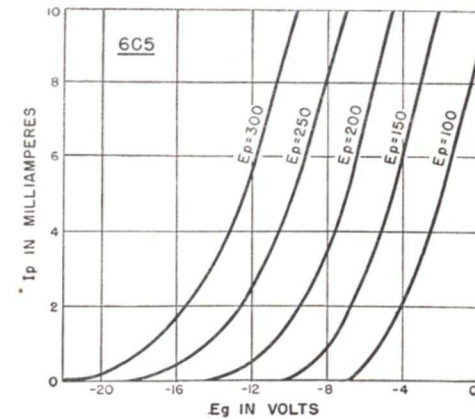
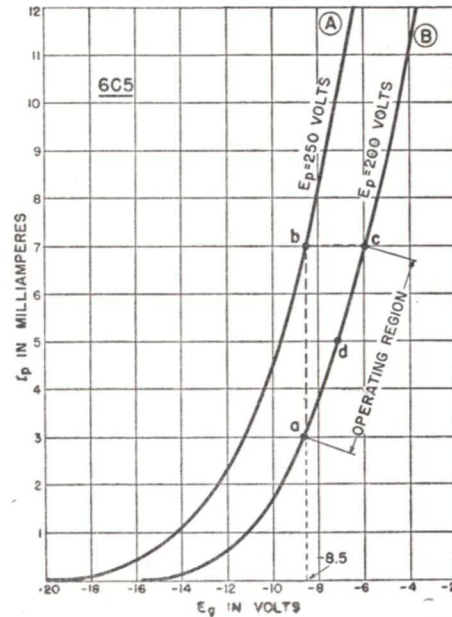

FIG. 9. A family of characteristic curves. (Note the combination of the other two).
FIG. 10. Two of the curves taken from the family in Fig. 9.
This process is repeated for other values of plate voltage until a series or family of E_g-I_p characteristic curves is secured. They are similar to those shown in Fig. 9 (which are for a 6C5 tube).
Suppose we use Fig. 10, showing two curves taken from Fig. 9, to illustrate this. If the 6C5 tube is operating at point *a* on curve *B* (for a plate voltage of 200 volts), then a plate current increase of 4 ma. can be obtained by changing the grid voltage 2.5 volts (from -8.5 to -6 volts); this moves the operating point to *c*. Similarly, with the bias voltage fixed at -8.5 volts, a 4-ma. change can be obtained by increasing the plate voltage 50 volts, from *a* on curve *B* to *b* on curve *A*. (Curve *A* is for 250 volts, which is 50 volts higher than curve *B*.) We can thus get a certain change in plate current either by leaving the plate voltage fixed and changing the bias, or by leaving the bias fixed and changing the plate voltage. However, notice that the plate voltage change is far larger than the grid voltage change needed to give the same plate current change.
a.c. voltage and measuring the resulting change in plate current, or it can be found from the characteristic curves. For example, referring to Fig. 10, a plate voltage change of 50 volts (a to b) produces a plate current change of 4 ma. when the tube is biased at -8.5 volts. As we can consider the change to be equivalent to an a.c. variation, we need only use Ohm's Law to find the a.c. resistance. In this case, then, r_p is equal to $50 \div .004$, or 12,500 ohms. Notice—this value applies only
D.C. Plate Resistance. A radio tube is peculiar in that it offers a different plate-to-cathode resistance to a steady voltage than it does to a varying voltage. When only d.c. voltage is applied to the grid and the plate, a definite amount of d.c. plate current will flow. By dividing the d.c. plate voltage by the d.c. plate current (Ohm's Law), we get the d.c. plate resistance of the tube for that particular grid bias value. Thus, at point a in Fig. 10, the d.c. plate voltage is 200 volts and the d.c. current is 3 ma., so the d.c. resistance is $200 \div .003$, which is about 66,000 ohms. (This is for the chosen value of grid bias only—since changing the grid bias changes the plate current and therefore changes the d.c. plate resistance, the bias must always be specified when a value of d.c. plate resistance is given.) This is quite different from the a.c. resistance.
► Values of mutual conductance are given on tube charts. They can also be obtained from the E_g-I_p curves. In Fig. 10, a grid voltage change of 2.5 volts (from a to c) produces a plate current change of .004 ampere. Since a change corresponds to an a.c. value, the mutual conductance of the 6C5 tube (for operating point d in the middle of the operating region of curve B) will be $.004 \div 2.5$ or .0016 mhos. This is the same as 1600 micromhos.